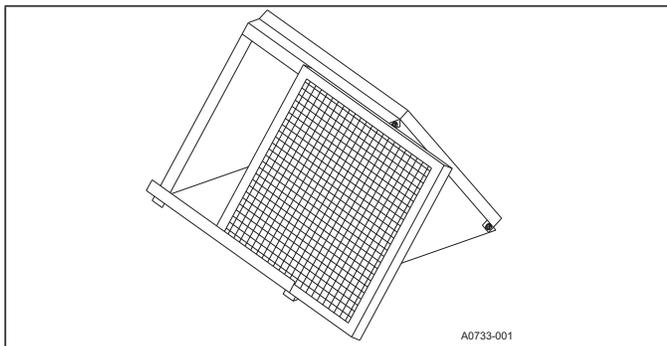

FIGURE 4: Mobile Home Filter Frame Accessories
- If a return air duct system and return plenum are required by state, local or regional codes then the return plenum may be connected to the furnace inlet and must terminate outside the space containing the furnace. The external air filter accessory shown in Figure 4 is designed and recommended for use inside the return plenum. Attach the return plenum to the furnace inlet duct flanges. This is typically through the use of S cleat material when a metal plenum is used. Installations where a return air duct system is utilized, the use of a listed flexible duct connector is recommended. The connection of the plenum to the furnace and all the ducts connecting to the plenum must be sealed to prevent air leakage. The sheet metal must be crosshatched to eliminate any popping of the sheet metal when the indoor fan is energized. The duct system is a very important part of the installation. If the duct system is improperly sized, the furnace does not operate properly. The ducts attached to the furnace must be of sufficient size so that the furnace operates at the specified external static pressure and within the air temperature rise specified on the furnace nameplate and the air temperature rise is also specified in Table 5.